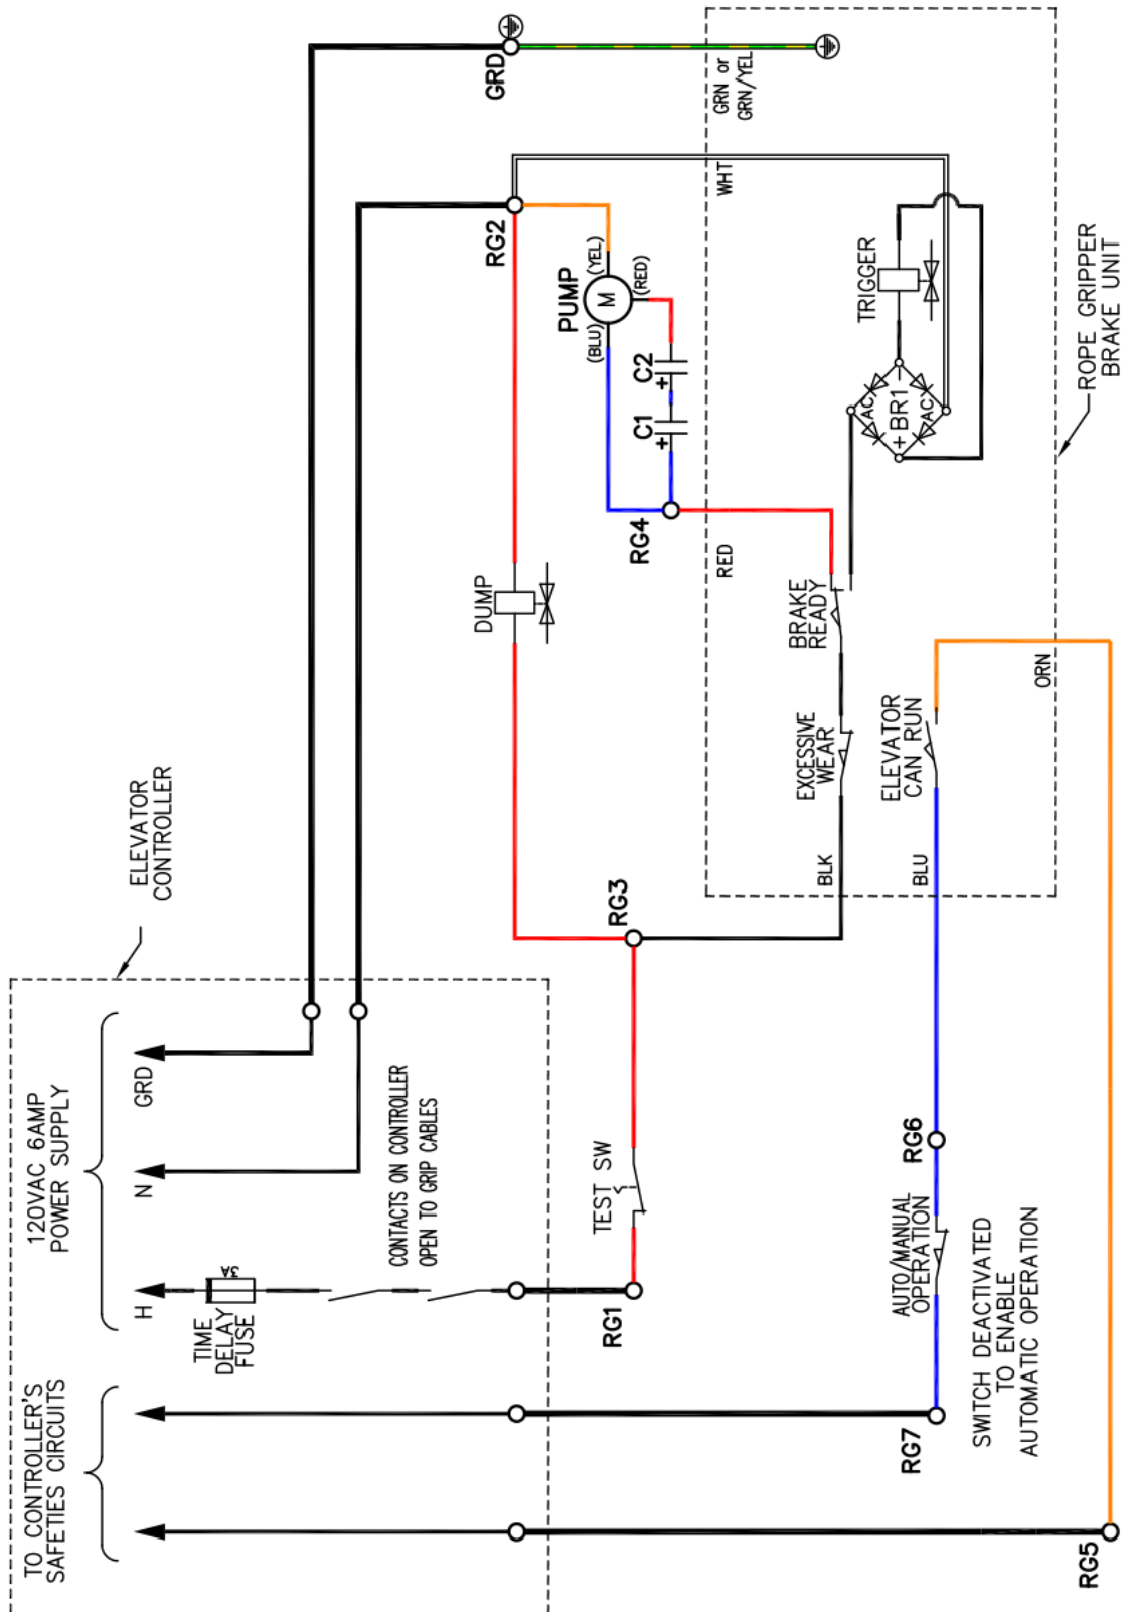

Figure 10: Rope Gripper® Electrical Schematic – Current Configuration; Switch DEACTIVATED to Enable Automatic Operation
3. ELECTRICAL CONNECTION VERIFICATION – (see Figure 10) The wiring of the controls to the pump unit should be as per the control manufacturers’ diagrams, with wires from the control to terminals RG1, RG2, RG5, RG7 and ground terminal EGND. Wires from the Gripper® to the pump unit are color coded and should be checked and correctly wired as: